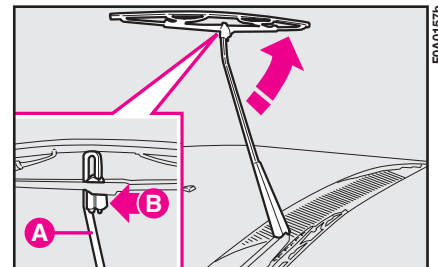

fig. 23
1) Lift the windscreen wiper arm **A** - fig. 23 off the glass and position the blade so as to form a right angle with the arm.